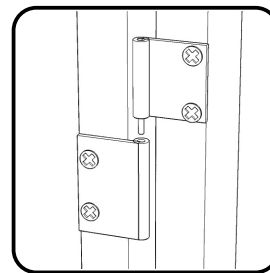

Figure 5
Attach Doors (P) and (Q) to side panel by sliding the door life hinges into the side panel lift hinges. (See Figure 5)